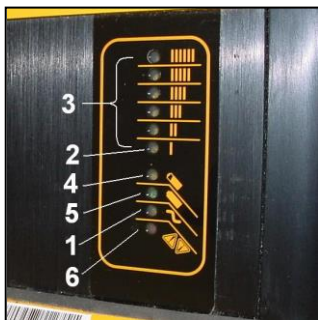

Figure 4.5.1
All current production Columbia 24/36/48 volt electric vehicles are built with a new solid state on-board, fully automatic Delta-Q Battery Charger (Figure 4.5.1) as standard equipment. This section explains in more detail the Delta-Q Charger Operations.
Connect the supplied power cord to the vehicle charger receptacle and to a properly grounded wall outlet. Charger start and charge time is automatic. The Yellow AC power LED (Fig. 4.5.1 No. 1) should remain illuminated while the Charger is plugged into an AC source. The remote LED will be flashing short green. If these LED's are not lit, before replacing Charger, recheck the AC connection and the AC source fuse or breaker. If this fails to correct the problem, contact your Columbia Dealer for assistance.
All Delta Q LED's will flash in sequence and then a trickle current will be applied to batteries until a minimum voltage is reached. In Figure 4.5.1 No. 3 indicates the Bar Graph and No. 2 indicates the lowest LED. Three (3) amperes is displayed as the lowest LED on the Bar Graph.
NOTICE: If the batteries are excessively discharged, the Delta-Q Charger will not be able to charge the complete set of batteries. The Delta-Q RED FAULT LED (Fig. 4.5.1 No. 6) and the remote LED will be flashing red. (See Section 4.5.2 Red Light Charger Error Codes). It will then be necessary to follow the Special Charging for Excessively Discharged Batteries, Section 4.6.
When the Yellow 80% LED (Fig 4.5.1 No. 4) is lit, the Charger has completed the bulk stage and the batteries are at approximately 80% state of charge. The 80% LED remains on as the last 20% of charge is returned to the batteries in the second phase (constant voltage phase). At this time the remote LED will flash long green.
NOTICE: A Yellow (Amber) flashing LED in the upper Bar Graph (Fig. 4.5.1 No. 3) and a flashing yellow remote LED indicates the thermostatic control has limited the Charger output due to ambient temperature conditions. It is still charging, but at a reduced rate.
If again the Delta-Q Charger has the RED FAULT LED (Fig. 4.5.1 No. 6) flashing there is a problem with one or more of the batteries.